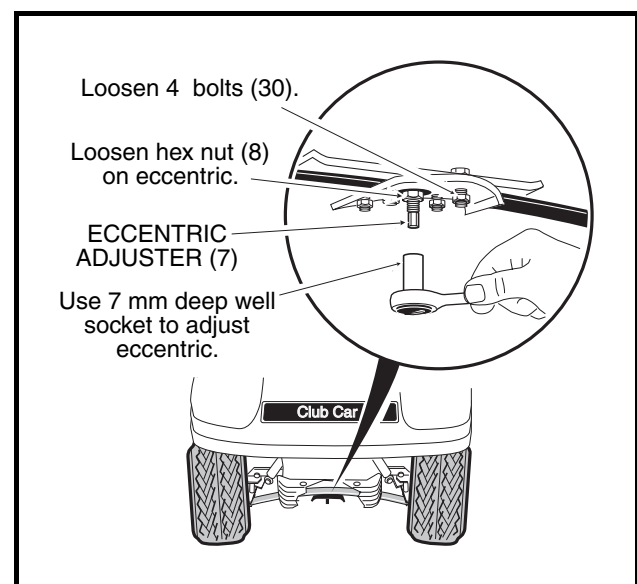

Figure 7-17 Adjust Camber
2. Loosen, but do not remove, the four bolts (30) that secure the leaf spring (6) to the bottom spring plate (29) (**Figure 7-22, Page 7-19**). See also **Figure 7-17, Page 7-14**.
- Loosen, but do not remove, the hex nut (8) on the adjustment eccentric (7) (**Figure 7-17, Page 7-14**) in the center of the spring. **See also Figure 7-22, Page 7-19.**
- Use a 7 mm deep well socket to rotate the eccentric (**Figure 7-17, Page 7-14**).
- Tighten the hex nut (8) on the adjustment eccentric (7) to 10 ft-lb (13.5 N-m) (**Figure 7-22, Page 7-19**) **See also Figure 7-17, Page 7-14.**